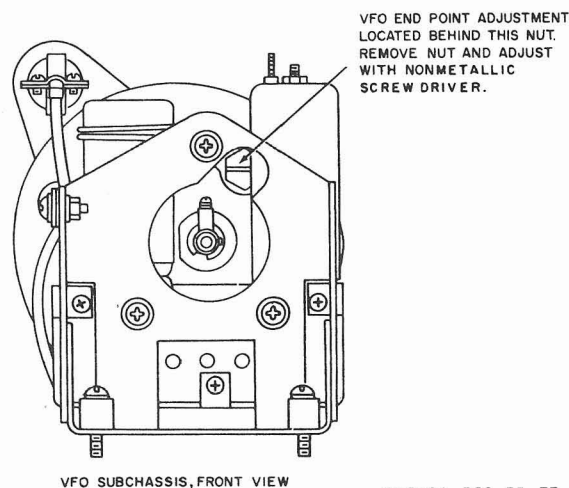

Figure 73. Variable-frequency oscillator end-point adjustment.
(fig. 73)
h. Use a thin screwdriver through the vfo end-point-adjustment access hole (fig. 73) to adjust L701 for zero beat.